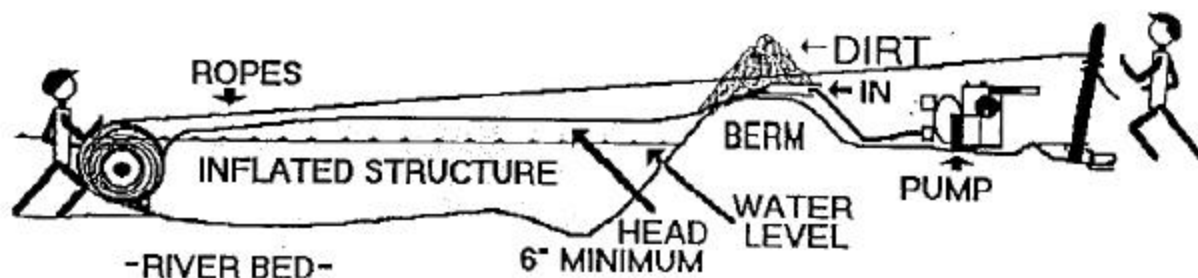

Figure 5. Cross section of a partly installed structure. Note location of the berm, pumps, ropes, and labourers.
4. After the fill hoses have been installed in to the 'inner tubes', a 'yard' of dirt dumped on the master tube between the two inner tubes at the very end of the structure on the berm, will help hold the structure during installation. Should the crew lose control of the structure during installation, this "yard" of dirt may keep it from taking off downstream, see Figure 5. Leave some slack in the 'inner tubes' for tying off the ends after the AQUA DAM Water Structure has been filled.
8. Water should be entering both inner tubes at the same rate and the master tube should be rising out of the water equally on both sides. In flowing water, a head of at least 6-12 inches should be maintained in the structure at all times above the surrounding water. Head is described here as that portion of the AQUA DAM Water Structure that rises above the surrounding water during inflation. In stronger currents 12 inches of head should be maintained on the inflating structure, see Figure 5. Flowing water will have a tendency to push the structure down stream. The 6-12 inch of head of water within the structure is the positive weight that keeps the structure on the river bed - and from taking off down stream. However, the greater the head, the harder it is to restrict unrolling of the structure, so a happy medium must be worked out during the installation process.